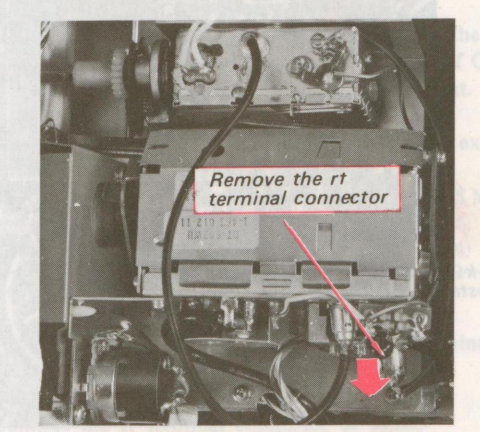

Fig. 4-10 Preparation for VIF adjustment, Step 1
1. Remove the rf terminal connector of the tuner. See Fig. 4-10.